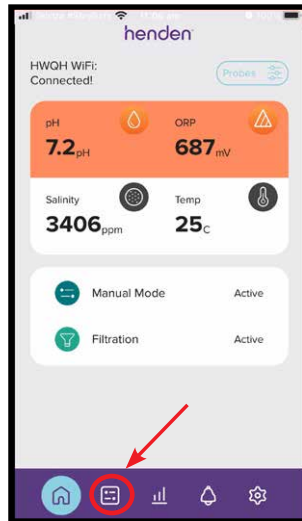

Figure 9.45
- From the dashboard of the the Henden Smart Chlorinator, go to the “modes” menu by using the modes button (refer Figure 9.45).